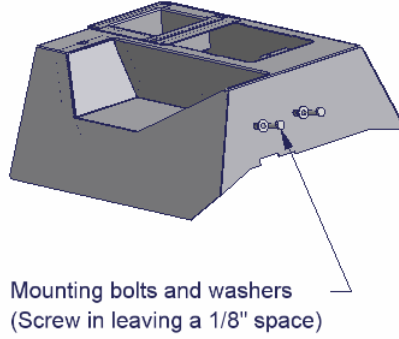

FIGURE 5
21. Attach the shift boot plate to the console using (2) 6-32 x 5/8 screws (SEE FIGURE 5). Position the shift boot plate flush against shift boot so it holds the shift boot tightly.